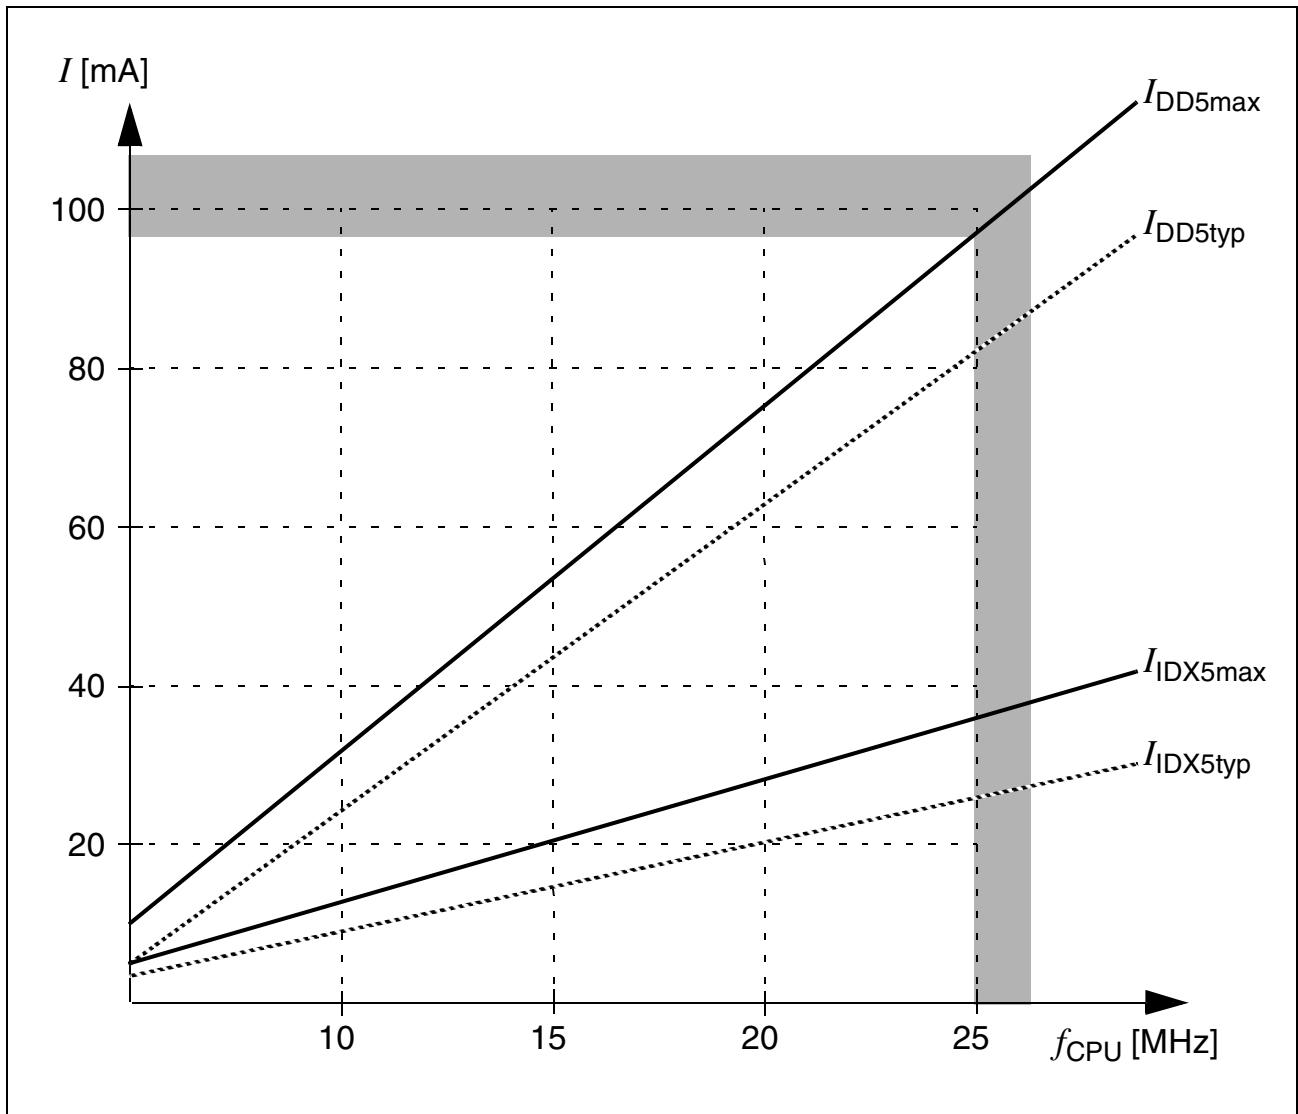

Figure 10 Supply/Idle Current as a Function of Operating Frequency for OTP Derivatives
- ¹⁾ The supply current is a function of the operating frequency. This dependency is illustrated in Figure 10. These parameters are tested at V_{DDmax} and maximum CPU clock with all outputs disconnected and all inputs at V_{IL} or V_{IH} .